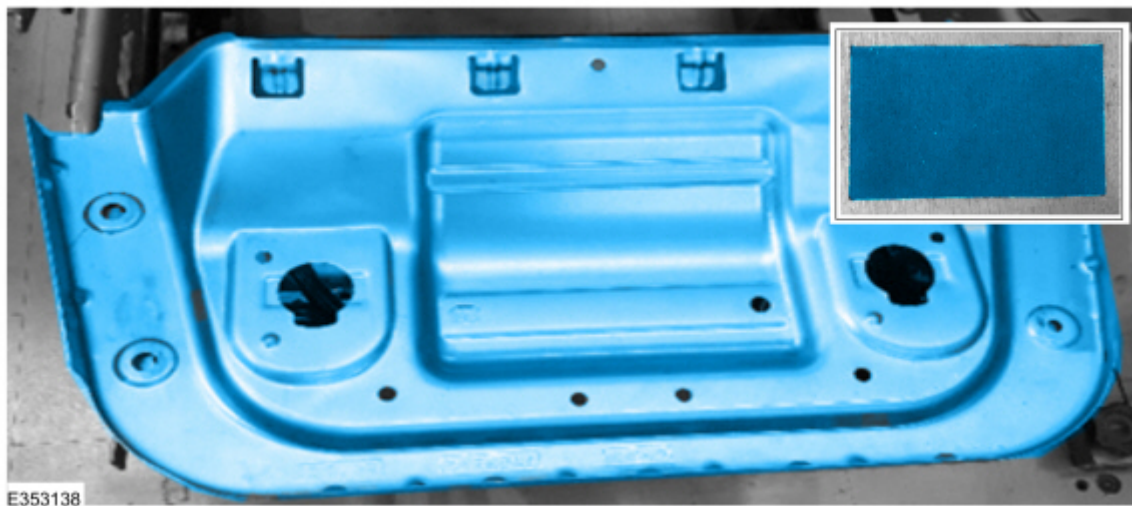

Figure 4
3. Place the front half pan and felt onto a suitable work surface. (Figure 4)